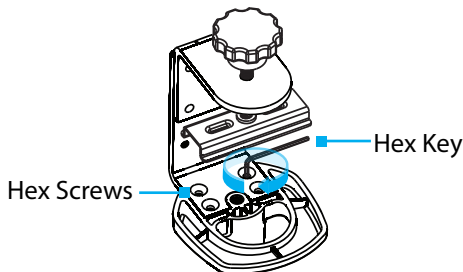

Figure 4
1. Rotate the **Pole Mount Assembly** so that the **Pole** faces downwards. Use the **Hex Key** to **Remove** the **Hex Screws** (x4) that are holding the base of the **Pole** to the **Desk Clamp**. (Figure 4)